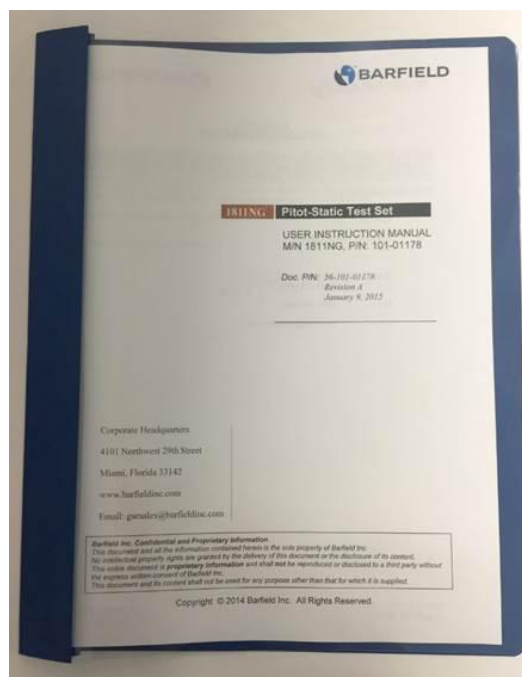

Figure 11 Instruction Manual, P/N 56-101-01178
- (1) Instruction manual P/N 56-101-01178, see Figure 11.